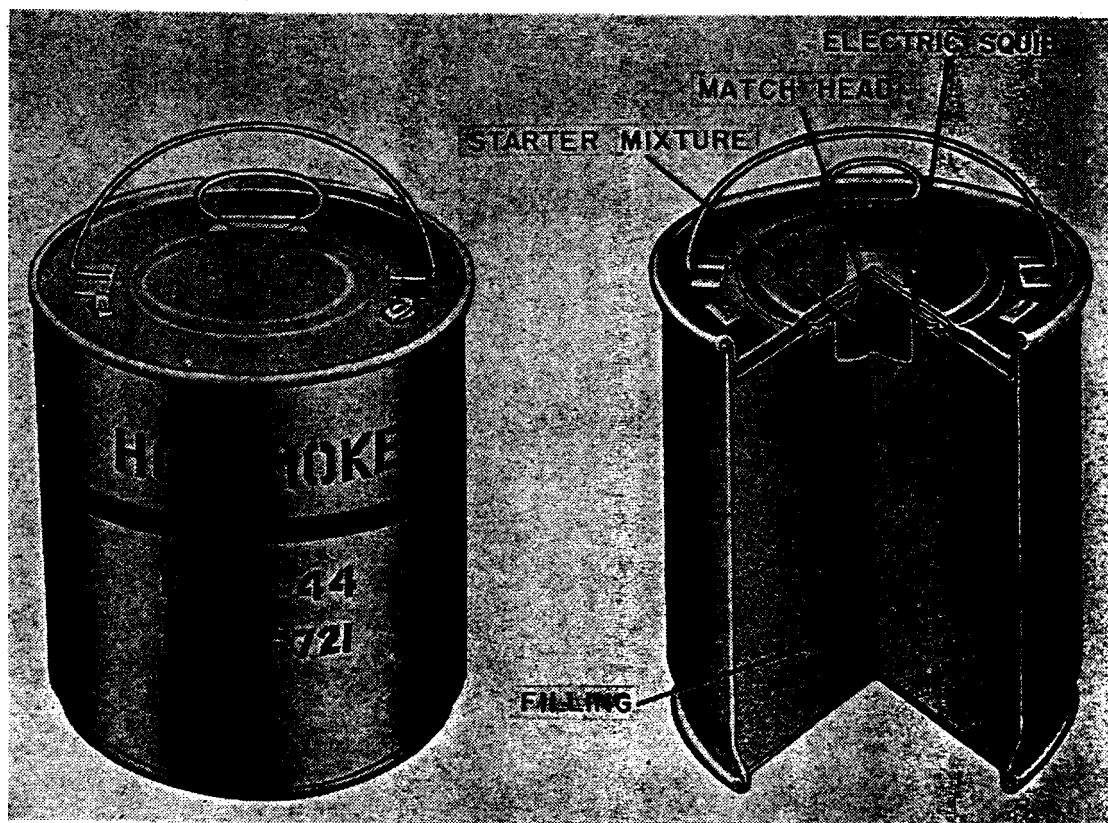

Figure 6. M5 30-lb. HC smoke pot.
a. The M5 smoke pot (figs. 6 and 7) is a cylindrical sheet-metal container, $8\frac{1}{2}$ inches in diameter by $9\frac{1}{2}$ inches high, filled with approximately 30 pounds of type C HC smoke mixture and 1 pound of fast-burning smoke mixture and provided with an ignition device. The bottom of the container is tapered to a diameter of $8\frac{1}{4}$ inches to permit stable stacking.